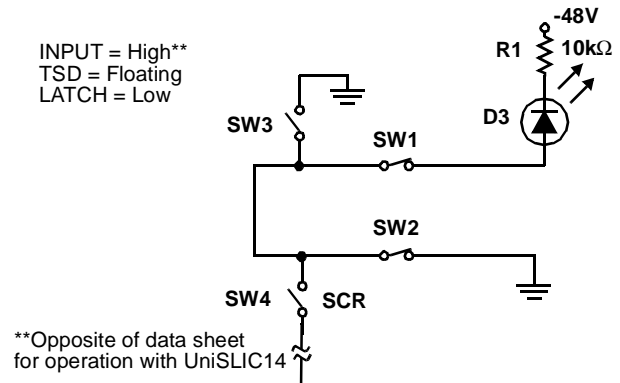

FIGURE 2. LINE BREAK SWITCH VERIFICATION
- When LED D3 is on (illuminate) and LED D4 is off, the Line Break switches (SW1 and SW2) are both ON (Closed). Reference Figure 2.
7. Verify that the Line Break LED (D3) is on. This indicates that both Line Break switches are ON (Closed) and functioning correctly. (INPUT = High) Reference Figure 2.